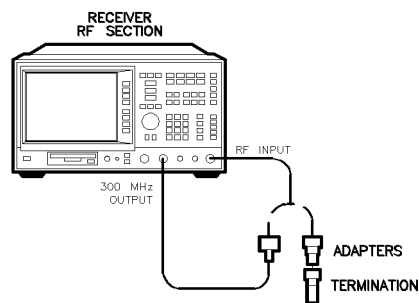

Figure 2-19. Displayed Average Noise Level Test Setup
1. Connect a cable from the CAL OUT to the INPUT 50  $\Omega$  of the receiver as shown in Figure 2-19.